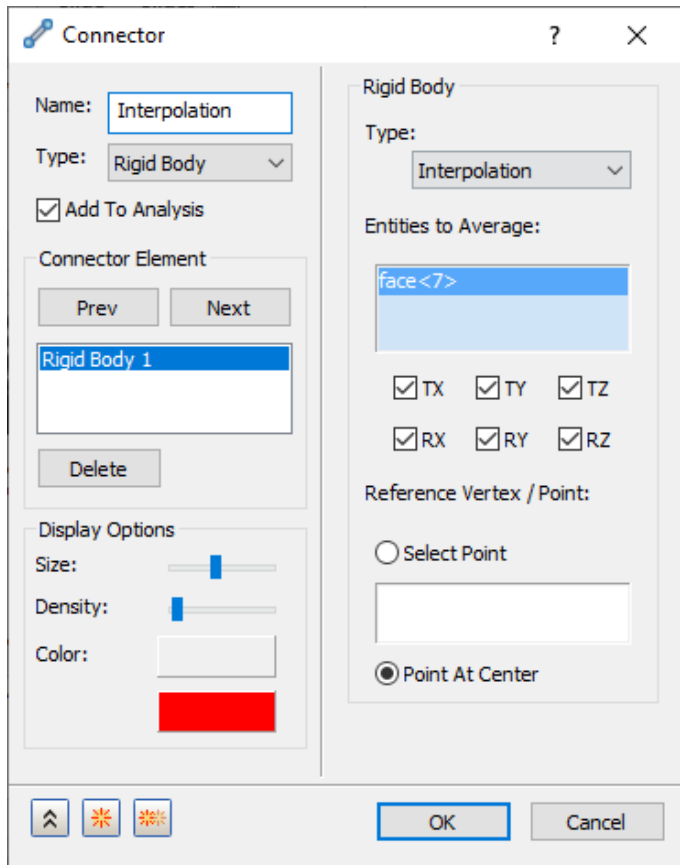

Figure 27 - Rigid Connector type Interpolating.
- The motor does not add any stiffness to the model. Add a “Connectors > Rigid Body” and set the type to “Interpolation”. See Figure 27. The nodes where the connector is attached to the model will not remain in a rigid plane. The load is transferred to the model based on interpolating the distance from the center point to the attachment points.